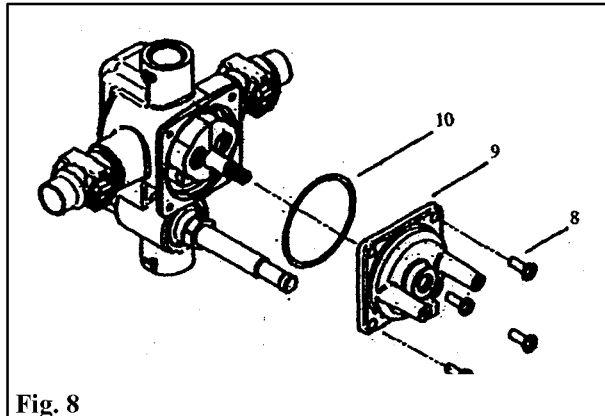

Fig. 8
- Loosen the four corner screws (7) and remove the valve cover (9) with the O-ring (10). The cartridge assembly is now exposed
- Pull the cartridge straight out of the valve body. Rotate the cartridge 180°. Place it into the valve body. Note position of hot ("H") and cold ("C") markings on the cartridge: "H" hot will now be on the right and "C" cold on the left. Make sure when sliding the cartridge into the body that check insert fits between two alignment ribs located on cartridge sides (Fig. 8). When correctly engaged the cartridge will not rotate. Take care not to damage cartridge inlet O-rings.